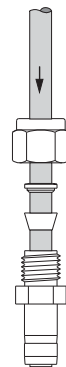

Figure 3
**Note:** 626DT series tank reservoirs can use either 1/4" or 3/8" OD fluid feed tubing. With 1/4" fluid feed tubing, use reducer fitting #62518PT (Figure 3).